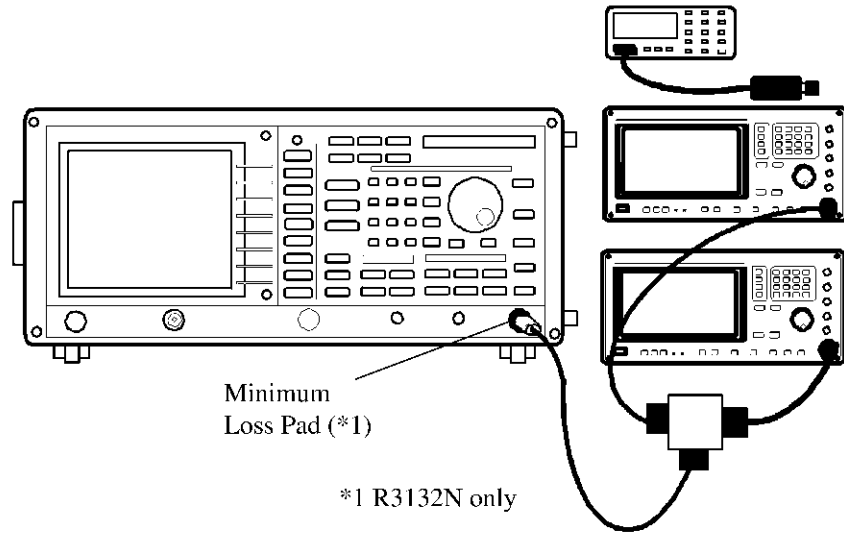

Figure 5-18 Setup of Third Order Intermodulation Distortion Test
5. Connect the signal generators and power divider as shown Figure 5-18.